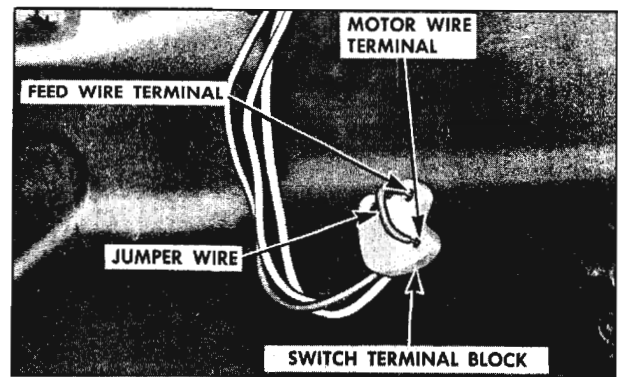

Fig. 16-154 Checking Window Control Switch
1. Insert one end of a No. 12 gauge jumper wire to the switch feed terminal and the other end to one of the motor lead terminals in the switch block. Repeat this check on the remaining motor lead terminal. (Fig. 16-154)
2. Insert one end of a No. 12 gauge jumper wire to the switch feed terminal and the other end to one of the motor lead terminals in the switch block. (Fig. 16-154)